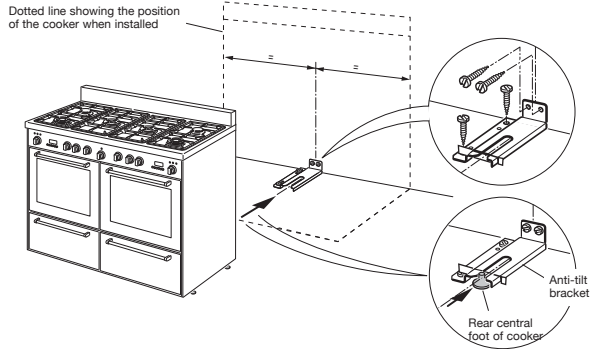

Fig. 5 Attaching the anti-tilt bracket and sliding the cooker into place
- 1 Drill four 8mm diameter holes for the fixing screws (two in the wall and two in the floor-see Fig.5) and insert the plastic plugs supplied.
- 2 Attach the anti-tilt bracket to the floor and rear wall using the four screws supplied, as shown in Fig. 5.
- 3 After attaching the anti-tilt bracket securely, slide the cooker into place. Ensure that the rear central foot slides under the bracket, as shown in Fig.5.